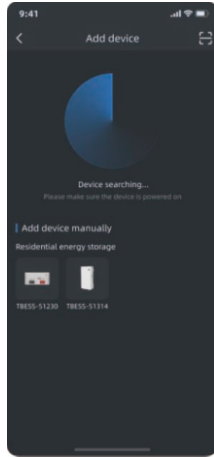

Figure 1
- 1) Figure 1: After enabling Bluetooth on the phone, start searching for Bluetooth signals from surrounding devices and try to add them **as close to the device as possible**; You can also click on **"manually add"** or **"scan code to add"** to switch the additional method.